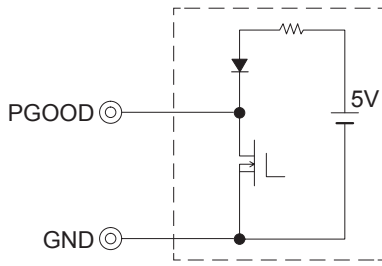

Fig.3.11 Internal PGOOD circuit
■ PGOOD circuit is designed as shown in Fig.3.11.